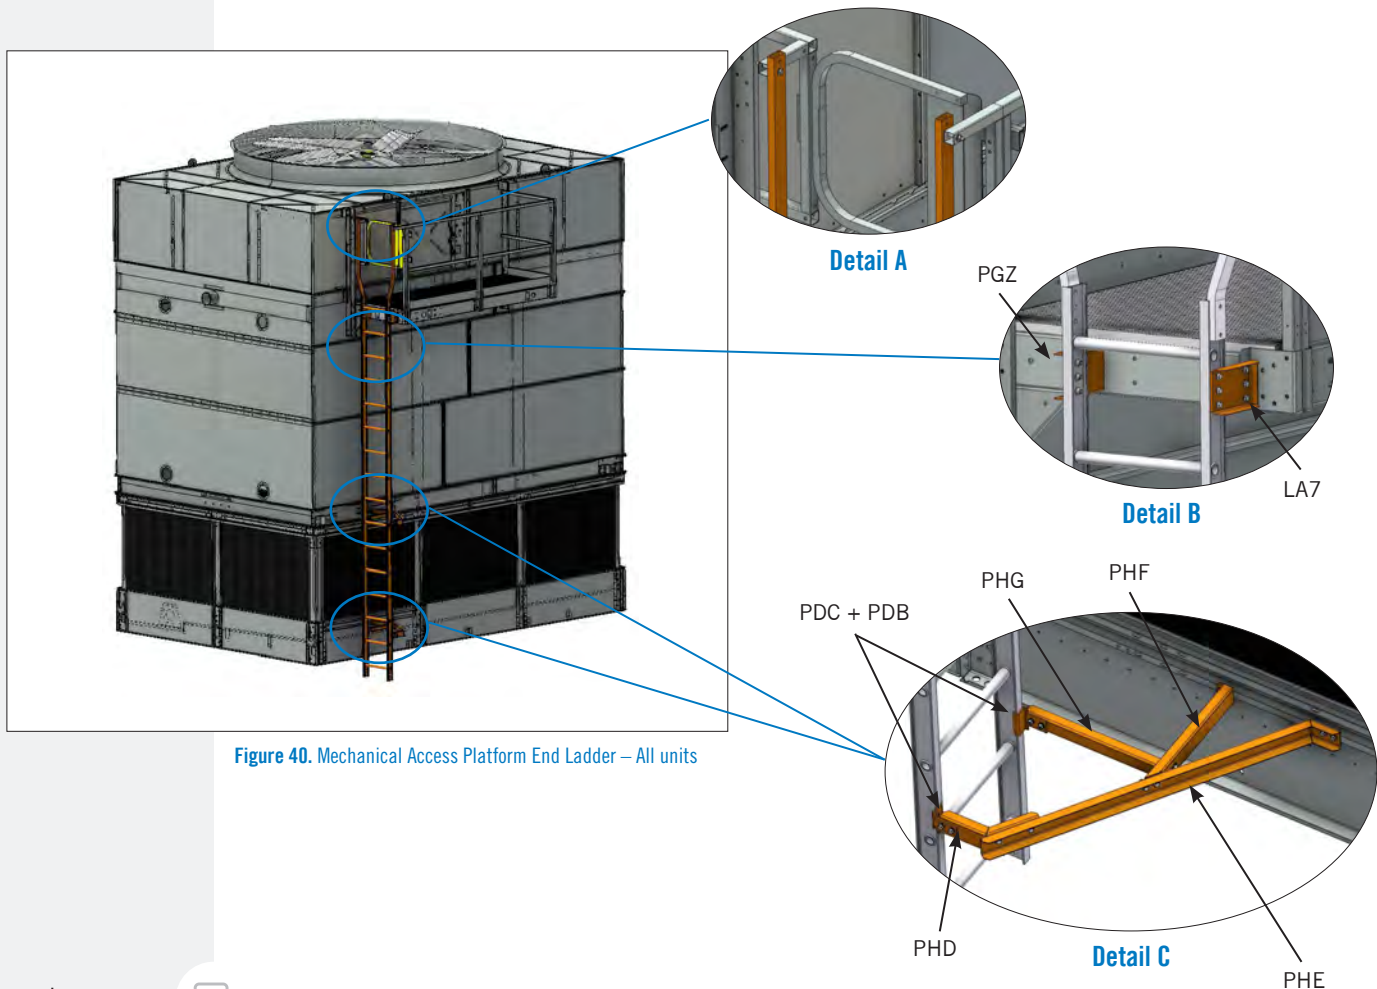

Figure 40. Mechanical Access Platform End Ladder – All units
1. Attach the upper ladder supports LA7 and PGZ to the ladder if not already installed and then attach the ladder assembly to the platform using the 3/8" x 1 1/4" bolts provided. See **Figure 40, Detail B**.
2. Secure the ladder flares to the platform railing posts using the 5/16" x 3 1/2" bolts provided. See **Figure 40, Detail A**.
3. Install the mid and lower ladder supports per **Figure 40, Detail C**, as follows: